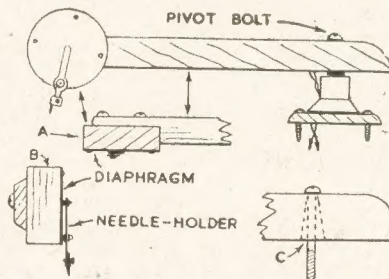

Fig. 3—The completed pick-up and arm
should, however, have a small free up-and-down movement at the thin end. To arrange for this, the pivot hole should be lengthened slightly at the bottom to form a slot, as shown at (C) in Fig. 3. This can easily be done with a small chisel, taking care to keep the slot as smooth as possible inside so that there is no sideways wobble or impediment to the motion.
To assemble the parts, place a small washer on the bolt that has been removed, then two rubber washers. Then place on the small rubber washer and needle-holder, completing with two more rubber washers (see (D) in Fig. 2, and also Fig. 3). It will be seen that the needle-holder is now pivoted without being in contact with the bolt. This insulation is not used for electrical reasons, but to prevent chatter or
The pick-up is secured to the arm by means of two small bolts from the back. These pass through the wood into the holes found in the back of the earphone unit. The needle should slant a little in the direction of rotation of the record, as shown in Fig. 3. Here (A) is a top view of the pick-up and arm, and (B) a view looking directly at the arm from its